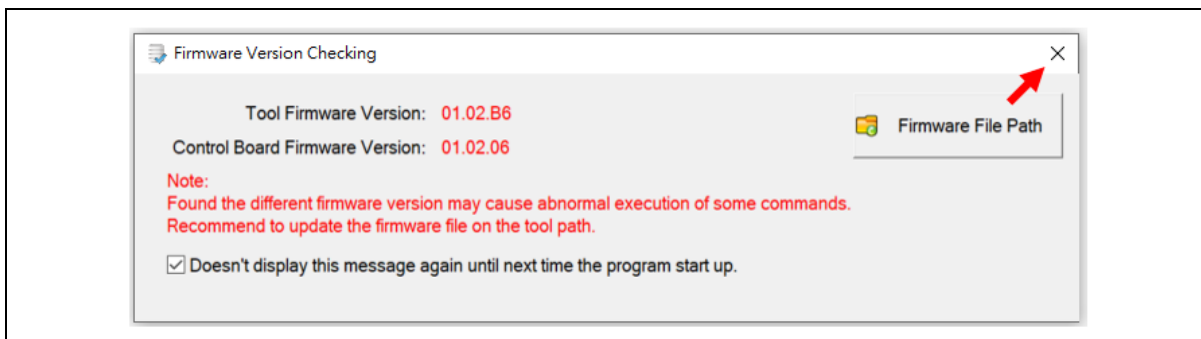

Figure 3-5 NuvotonAudioGUI Operating Step (2)
2. After clicking [OK], NuvotonAudioGUI will automatically read the connection status and verify the firmware version of the NU-NAUSB2I2C. If the firmware version is outdated, the version reminder window shown in Figure 3-5 will pop up. Users can ignore this message and continue operating NuvotonAudioGUI by clicking the [X] on the top-right corner.